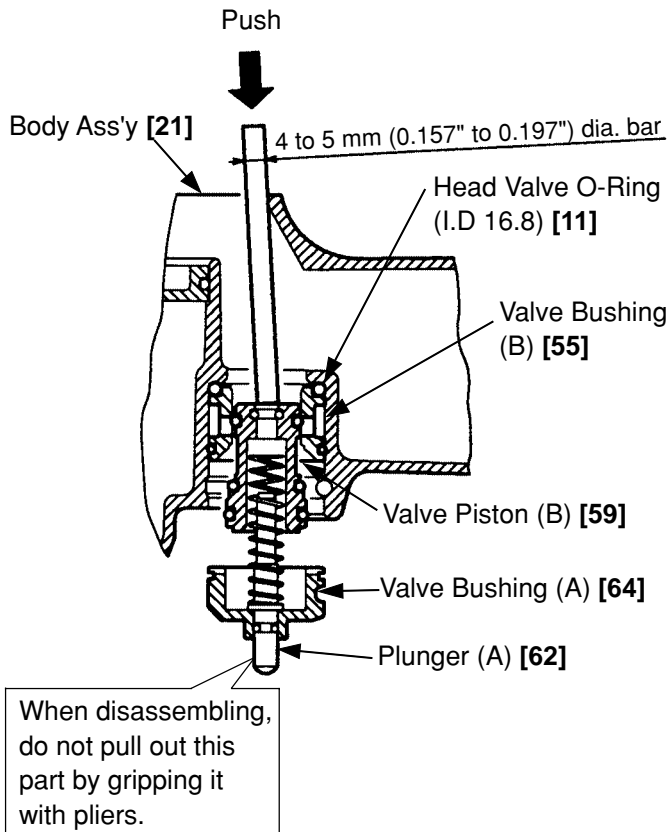

Fig. 14
- 1) Remove the Exhaust Cover [8] by following the procedure in (1), section 10-2.
- 2) As shown in Fig. 14, put a 4 to 5 mm (0.157 to 0.197") dia. bar in from the upper side of the Body Ass'y [21] and push the top of Valve Piston (B) [59]. Now, the parts forming the control valve can be taken out except Valve Bushing (A) [64] and the Head Valve O-Ring (I.D 16.8) [11].